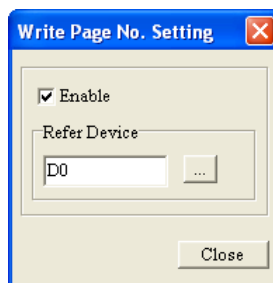

Figure 5-10 Write Page No. Setting window
**Write Page No. Setting** is used to write the number assigned to the page which is opened to a device. After users click **Write Page No. Setting** on the **Local Page Setting** menu, or right-click a page and then click **Write Page No. Setting** on the context menu which appears, the **Write Page No. Setting** window will appear, as shown in Figure 5-10. After the users click the **Enable** checkbox, they can click **...** in the **Refer Device** section. After the users click **...** in the **Refer Device** section, the **Refer Device** window will be opened. Please refer to section 4.1.1 for more information.